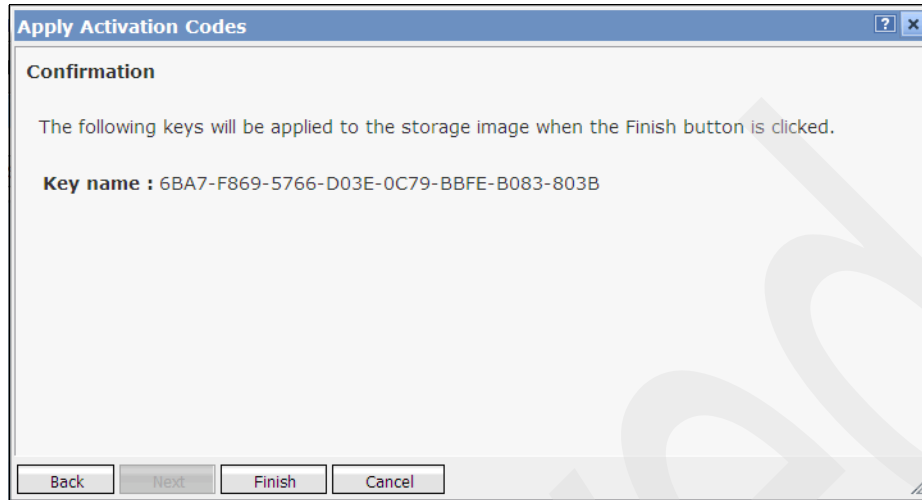

Figure 10-13 Apply Activation Codes: Confirmation window
- Once the file has been selected, click **Next** to continue. The Confirmation window displays the key name. Click **Finish** to complete the new key activation procedure (Figure 10-13).